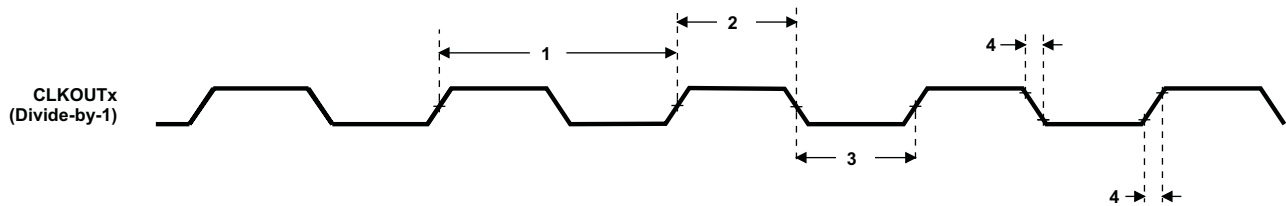

**Figure 7-15. CLKIN32 Timing**
**Table 7-16. Timing Requirements for CLKIN32 (1)(2) (see Figure 7-15)**